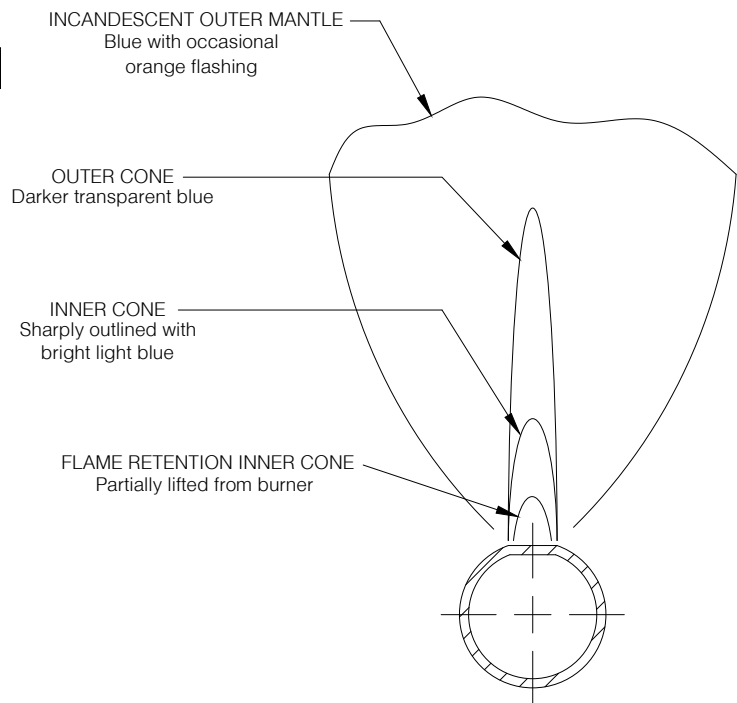

Figure 7-3: Main Burner Flame
- Check main burner flames. See Figure 7-3. Flame should have clearly defined inner cones with no yellow tipping. Orange-yellow streaks caused by dust should not be confused with true yellow tipping.